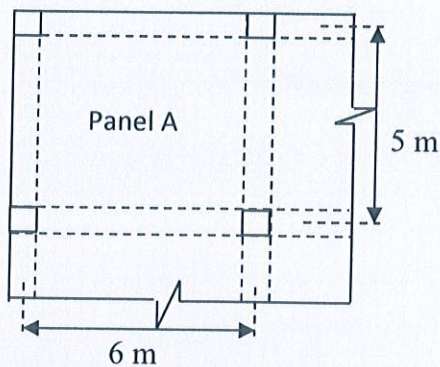

Figure 1. Interior slab panel
1. Analyze the frame in **Fig.1** by Force Method and draw the final bending moment diagram (Consider the vertical reaction at H as the redundant ...X1). [14]
- a. A corner panel of beam supported reinforced concrete slab of an office building as shown in **Figure 1** is to be designed. The slab is subjected to 7.8 kN/m^2 dead load (including self-weight, random wall and finishes) and 2.4 kN/m^2 live load. Thickness of the slab could be assumed as 150 mm. Apply the concept to design the short span of the slab for negative (supports) moments. The co-efficient of moments are shown in Appendix. [10 Marks]